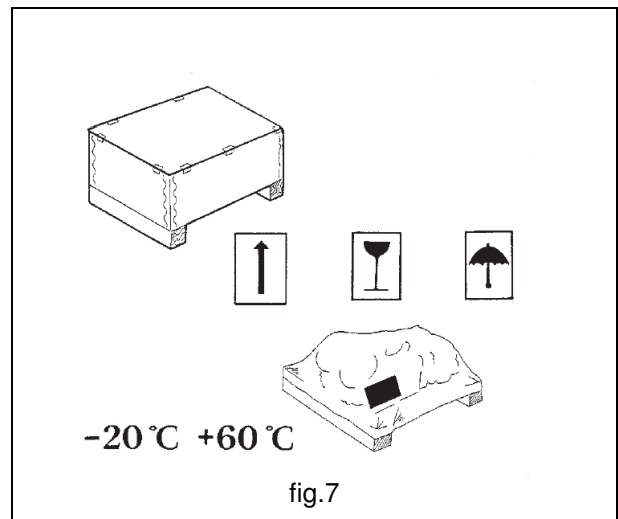

fig.7
- The packing, when necessary, can show signs and pictograms which give important information regarding the handling and transport (mass, handling points, storage information, etc.) - (fig.7).